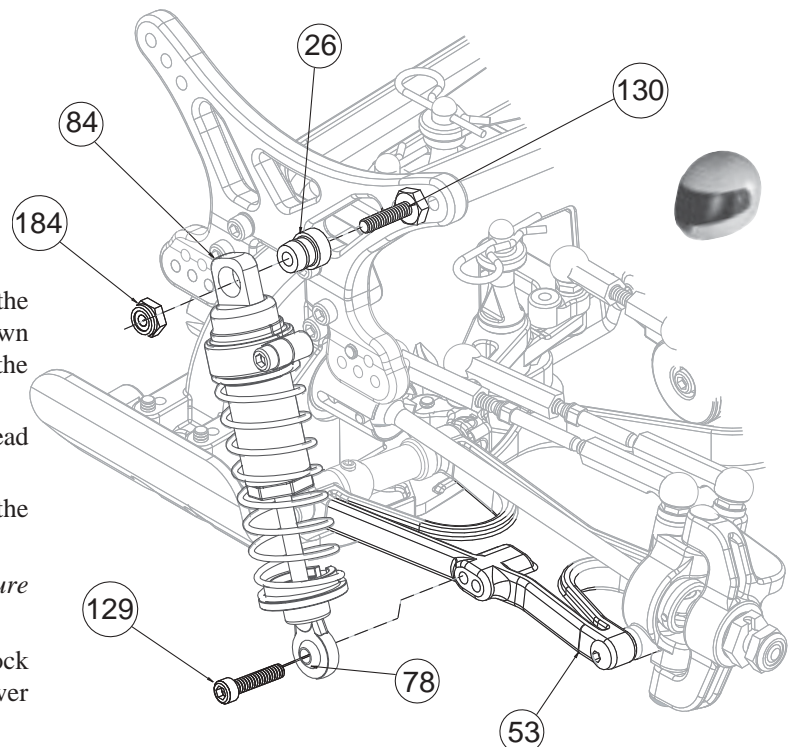

Figure 67
❑ 1. Position the bottom of an assembled front shock in front of the shock mounting area on the left front suspension arm (53) as shown in Figure 67. Align the hole in the shock mount ball (78) with the inside hole in the arm (53).